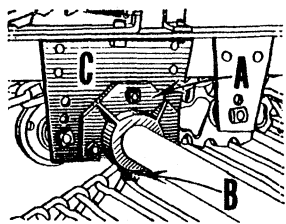

Figure 13
1. Remove all parts wired to both frames and put them where they will be handy. Remove axle castings "A," Figure 13, from the steel axle hangers "C." Strip the axle of all parts. Remove caps from wheels.
5. (Figure 13) Slide the axle castings "A" on the axle until the set screws "B" in the castings line up with the proper spots on the axle.
6. (Figure 13) Slide axle assembly under the frames and over the return elevator. Then bolt axle castings "A" to the steel axle hangers "C."